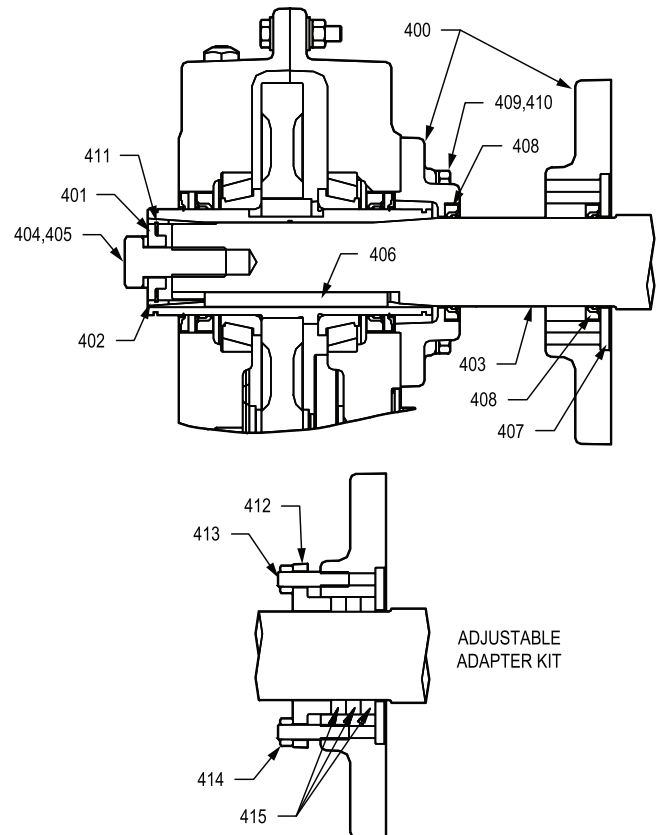

Figure 18 - Screw Conveyor Adapter Assembly
1. Install seals (408) into adapter housing as shown in Figure 18. If the optional packing adapter is to be used, install only one seal in the small end of the adapter. Use extreme care when installing seals to avoid damage to the seals. Press or tap seals into place by applying pressure only on the outer edge of the seal. Make sure seals are install evenly and are not tilted.
2. If using the optional packing adapter, install the two studs (413), retaining ring (412), and two nuts (414). Thread the nuts onto the studs about 4-5 threads. Install the three braided type seals (415) in a circular direction into the adapter cavity. Shoulder the braided seals against the adjustable retaining ring (412). To aid in installation of the driveshaft in step 7, the braided seals can be flattened out slightly with a soft hammer prior to installation. When installing the braided seals offset the joints from each other.
3. Lightly tap the large washer (407) into the counterbore on the large end of the adapter to seal the braided material installed in Step 2 or the seal installed in Step 1.
5. Position screw conveyor adapter (400) on the reducer output hub so that the small end (end with four drilled holes) rests on reducer. The approximate 1/8" piloting projection should locate in the output seal bore next to the auxiliary seal. Adapter projection should not touch the face of the gear case casting.
6. Place four adapter screws (409) and lock washers (410) through the adapter and thread into the reducer. Tighten the four cap screws (409) to the torque specified in Table 13 - Screw Conveyor Adapter Bolt Recommended Torque Setting Values.
8. Install the retaining ring (411) into the screw conveyor wedge (402). Making sure the drive shaft is fully seated into the reducer, slide the wedge onto drive shaft.
9. Install keeper plate (401), drive shaft cap screw (404), and lockwasher (405). Torque to specifications in Table 13 - Screw Conveyor Drive Shaft Retainer Bolt Recommended Torque Values.